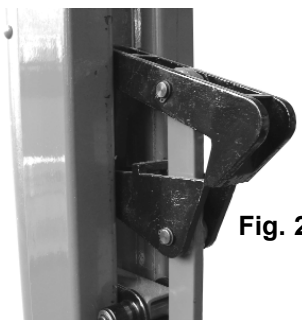

Fig. 2
- 3.3.3 Slide the fulcrum assembly (47) into position from the back of the post (51). Refer to Fig. 2.